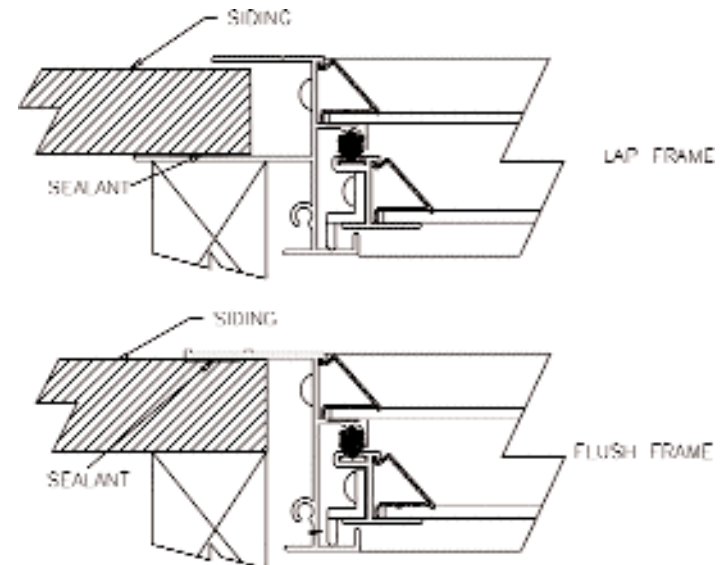

Figure 5
6. **Caution:** If the mounting flange is provided with pre-punched holes, never leave holes or slots unsealed (caulk unused holes or slots if necessary); water can penetrate. **Caution:** Fasteners should be installed so spacing is not more than 8" max on center if under siding application and 4" max on center if over siding application. Continue installation of the rest of the fasteners starting in the center of each member and progressing out to the corners. Fasteners must be installed close enough together to ensure the sealant on the back of mounting flange makes full contact with the exterior perimeter of the R.O. (see figure 5).